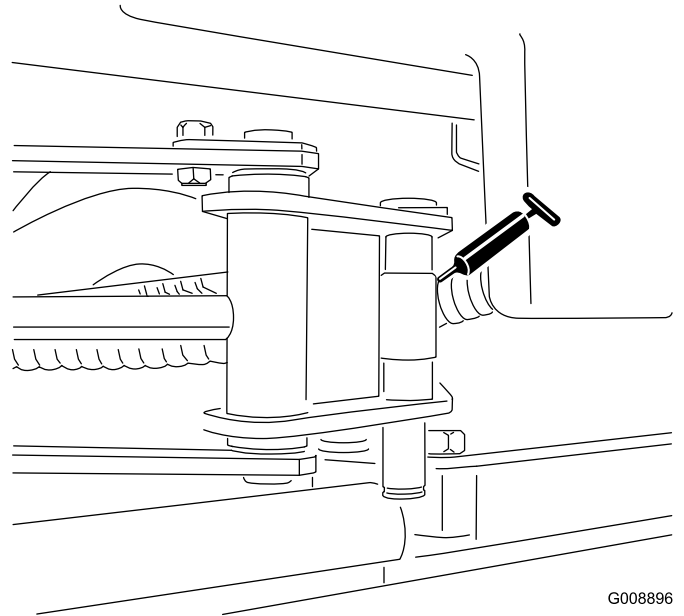

Figure 38
- SideWinder cylinder ends (2) (Figure 38)